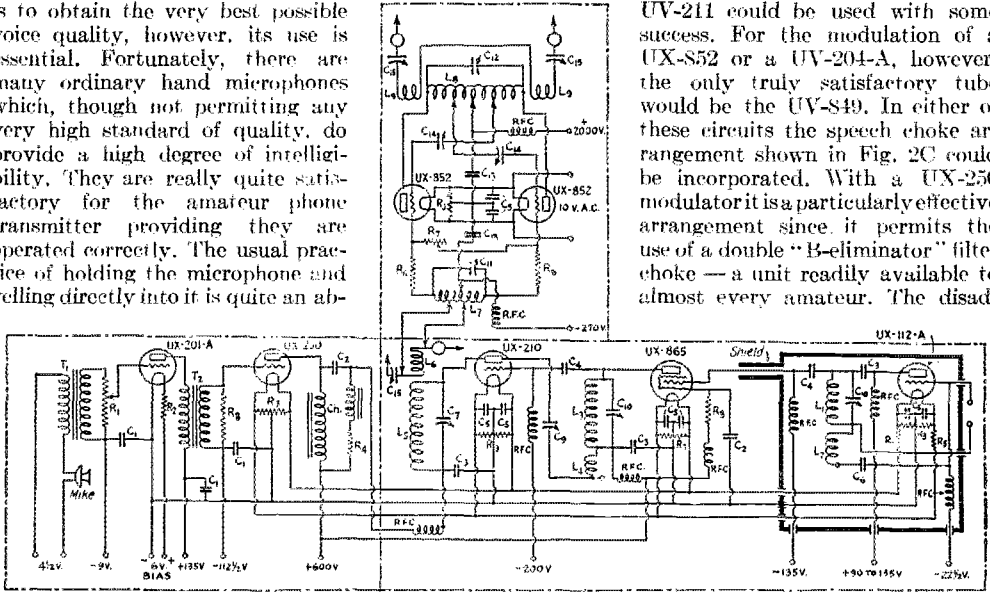

FIG. 6.—THE WIRING OF THE COMPLETE PHONE TRANSMITTER ILLUSTRATED
All other components correspond with those similarly designated in Fig. 6.
- All other apparatus corresponds with that similarly designated in Fig. 6.
The separate illustration of the three-tube radio-frequency unit provides some idea of its lay-out. The close-up gives an impression of the constructional methods used in it. These views may well be studied in conjunction with the circuit diagram of Fig. 6. In the close-up view the oscillator is in the right foreground. It consists of a UX-112 tube arranged in a tuned-plate circuit in such a manner that it can be changed over to crystal-control merely by plugging the crystal into the sockets *X*, *Y* and removing the grid coil *L2*. In the illustration the grid coil can be seen at the bottom of the bakelite tube on which the coils are wound. By turning the coil